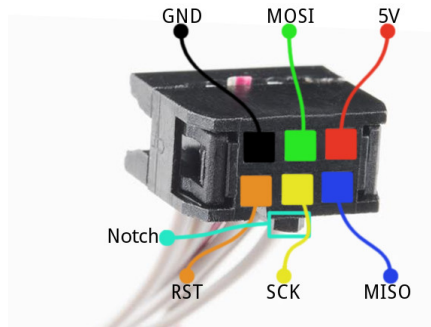
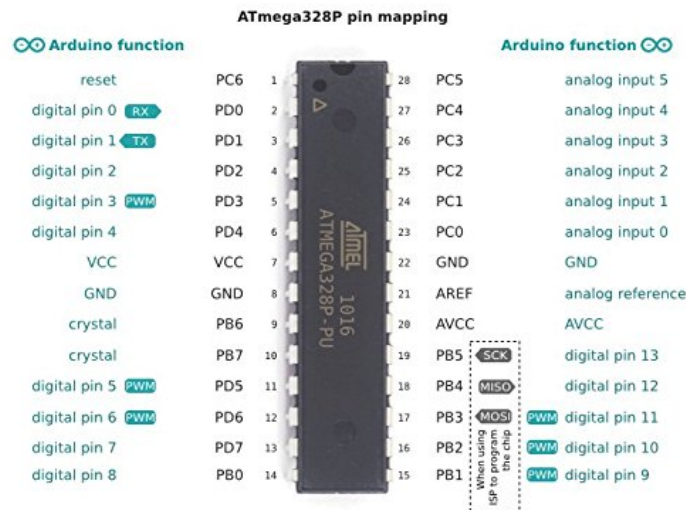

Figure 9: Pocket AVR Programmer programming cable pinout
Figure 10: ATmega328 DIP package pinout
2. Connect MOSI, MISO, SCK, Reset, power and ground to the Pocket AVR Programmer. Pocket AVR Programmer cable 2x3 connector pinout is specified in Fig 9. ATmega328 pinout specified in Fig 10.